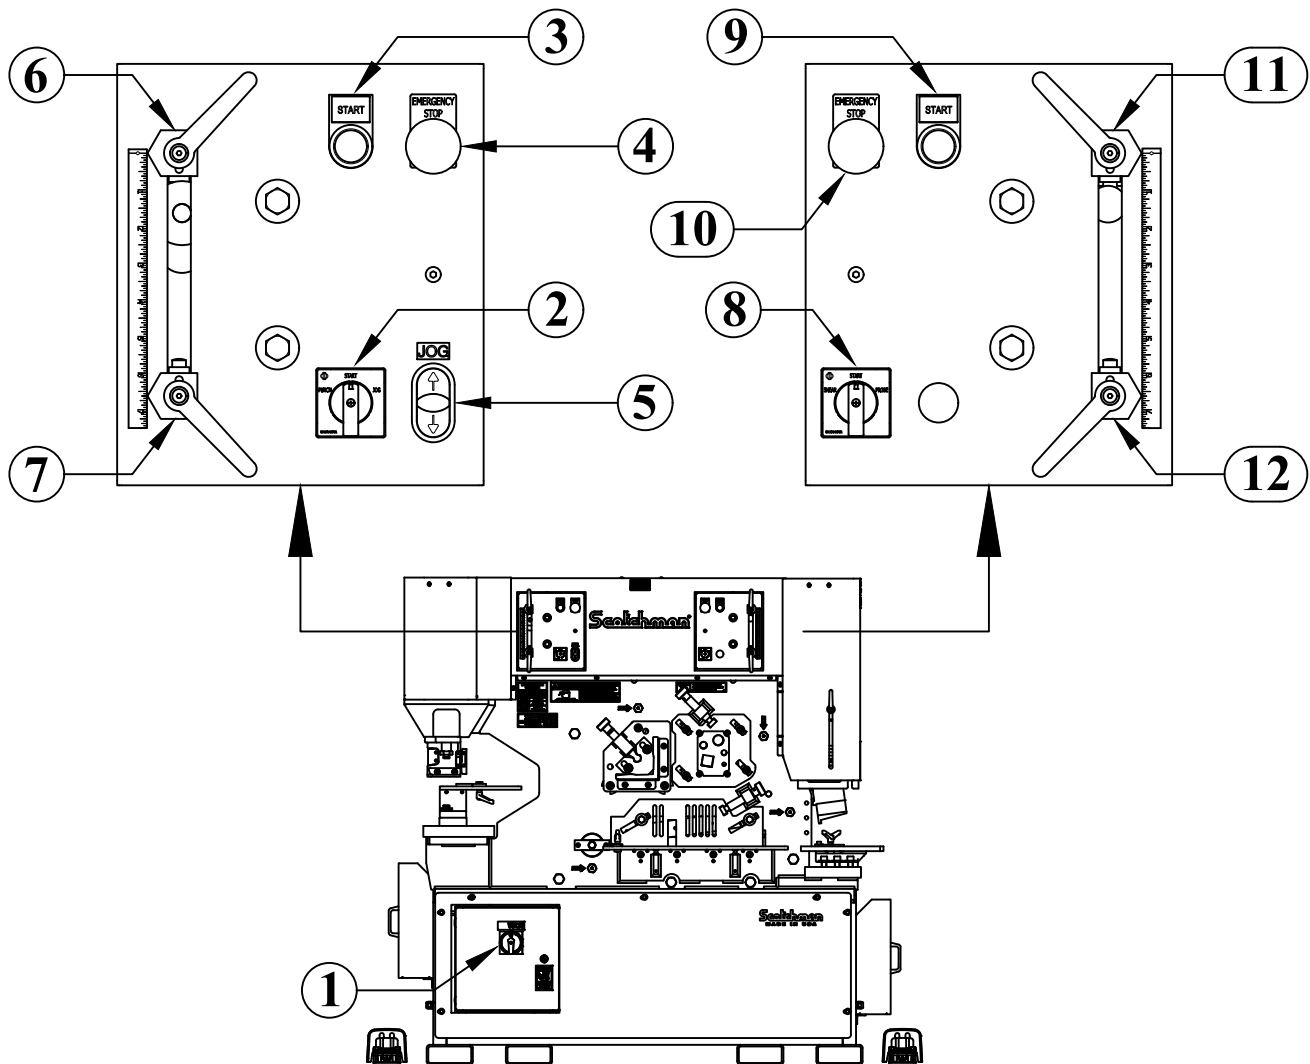

FIGURE 5
- ➔ SINCE THIS MACHINE CAN BE OPERATED BY TWO PEOPLE AT THE SAME TIME, IT IS IMPORTANT THAT THE OPERATORS BE VERY FAMILIAR WITH ALL OF THE CONTROL PANEL FUNCTION AND HOW THEY AFFECT THE OPERATION OF THE MACHINE. REFER TO FIGURE 5 BELOW.